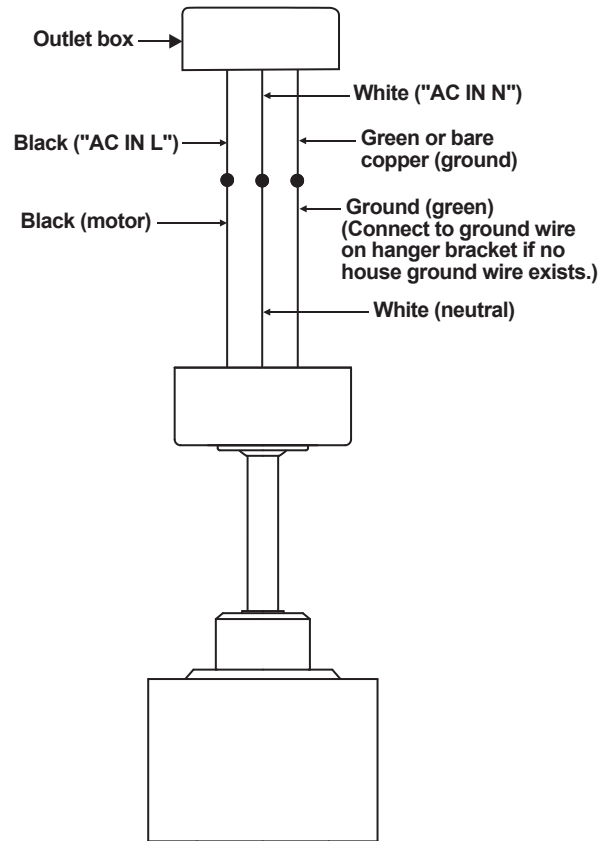

Figure 9
2. Connect the neutral fan (white) wire to the white neutral household wire. (Fig. 9)